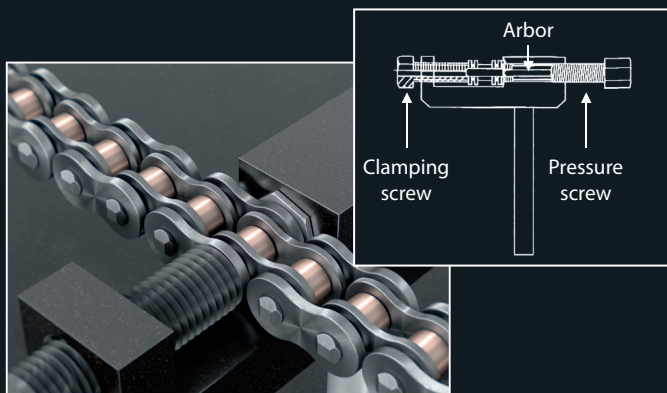

Fig. 1
- Press out the bolt by turning the pressure screw (Fig. 1). To do this, hold the tool firmly and turn the pressure screw clockwise using a wrench WAF19.